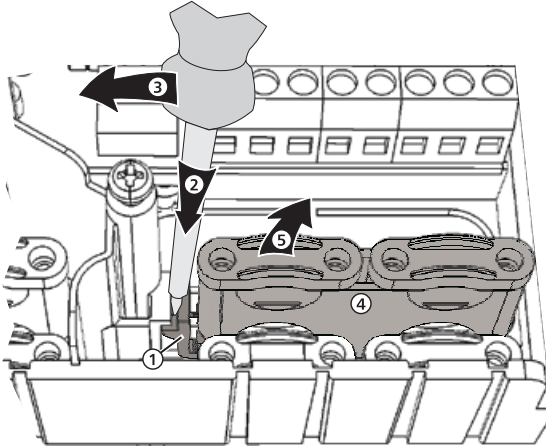

Fig. 5: Removing the right plastic link
1. Insert a flat-blade screwdriver under the right plastic link between the casing and the spring clamp ①, ② (Fig. 5).
2. Carefully push the screwdriver to the left ③. Lever the spring clamp ① to the right until the plastic link ④ is free.
3. Pull out the plastic link upwards by hand ⑤.